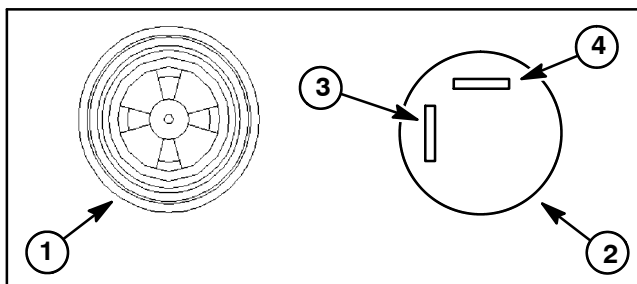

Figure 20
3. Disconnect wire harness connector from alarm. Correctly connect 12VDC source to the terminals (Fig. 20). Alarm should sound.